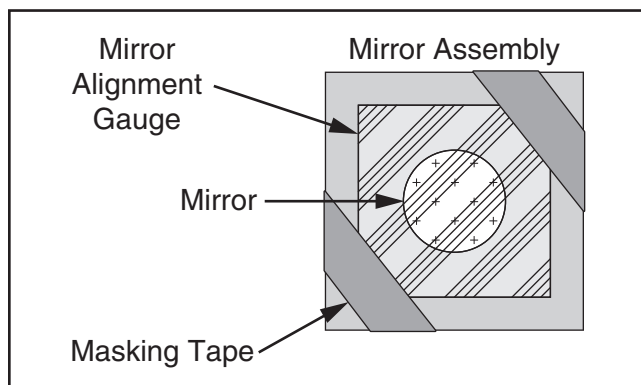

Figure 110. Mirror alignment gauge installed.
17. Place mirror alignment gauge in front of Mirror #2 and hold in place with masking tape, as shown in **Figure 110**.